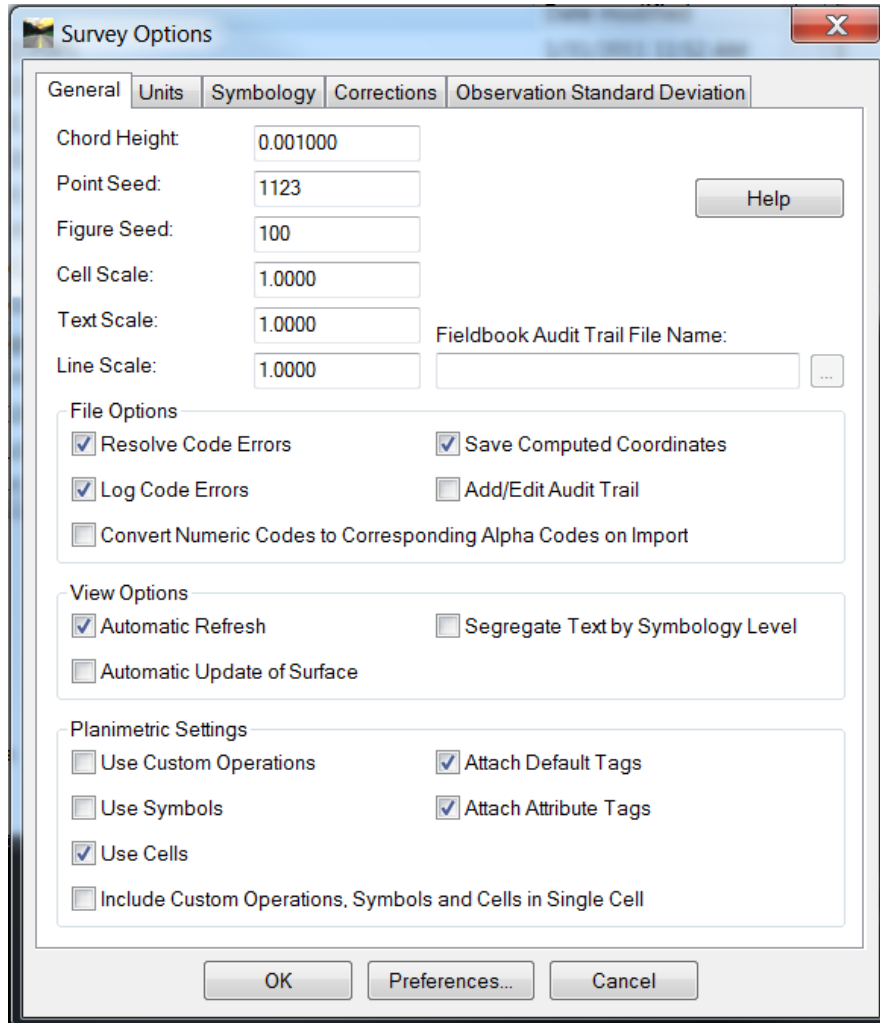
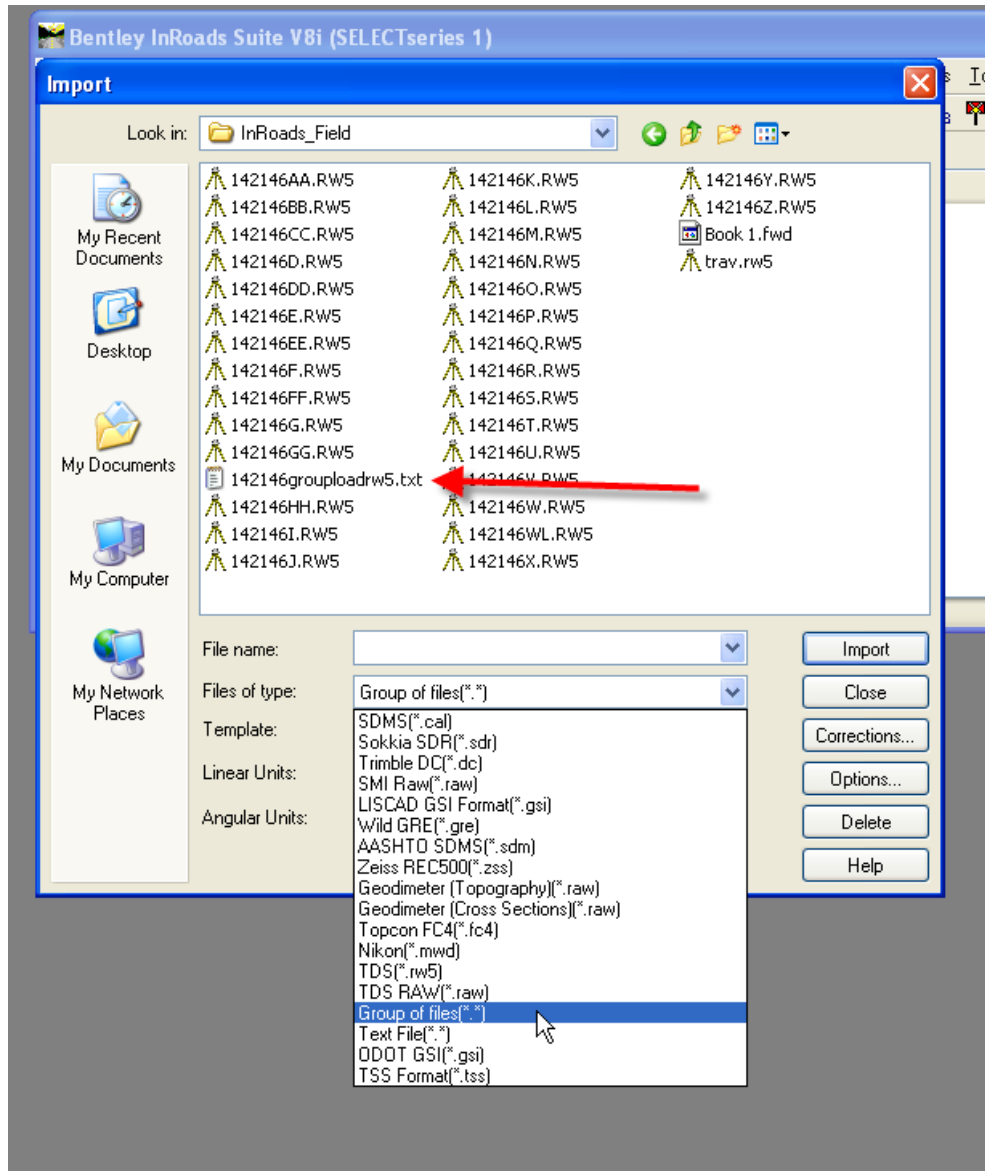
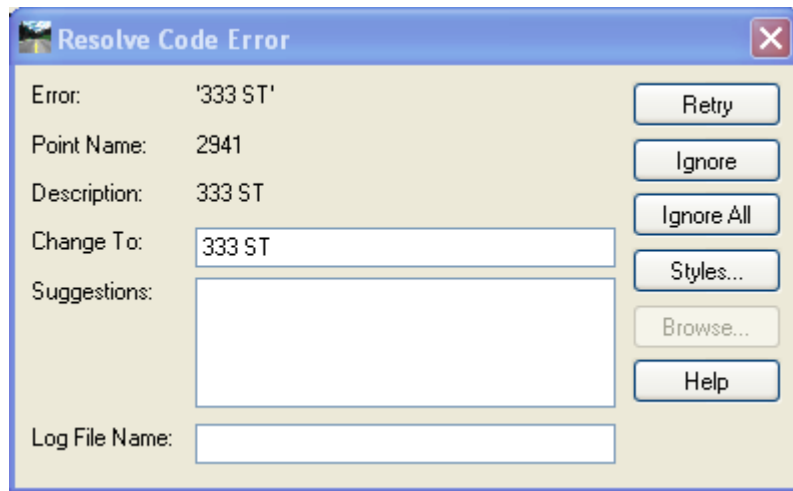
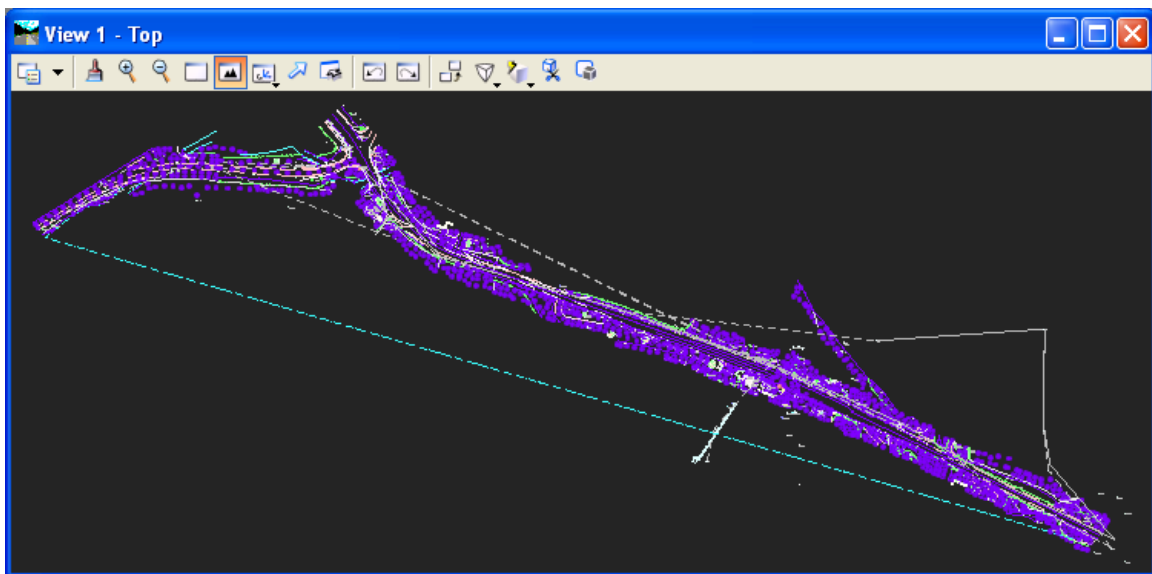

Figure 2-13 InRoads Survey Options Dialog Box
Figure 2-14 InRoads Import Dialog Box
Figure 2-15 InRoads Resolve Code Errors Dialog Box
Figure 2-16 MicroStation View of InRoads Fieldbook Data
- B. On the InRoads Menu bar click on **Tools > Survey Options...** on the Import dialog box (Figure 2-14). The Survey Options dialog box will appear (Figure 2-13), in the File Options portion toggle on **Resolve Code Errors** and **Log Code Errors**. **Click OK**.
- C. From the InRoads main menu bar select **File > Import > Survey Data**. The Import dialog box shown in Figure 2-14 will appear.
- E. Click on **Close** on the Import dialog box (Figure 2-14). The Resolve Code Error dialog box will appear (Figure 2-15). Select **Ignore All**. This will process the data and allow the user to fix the code errors later. After a few seconds the view will appear as shown in Figure 2-16.